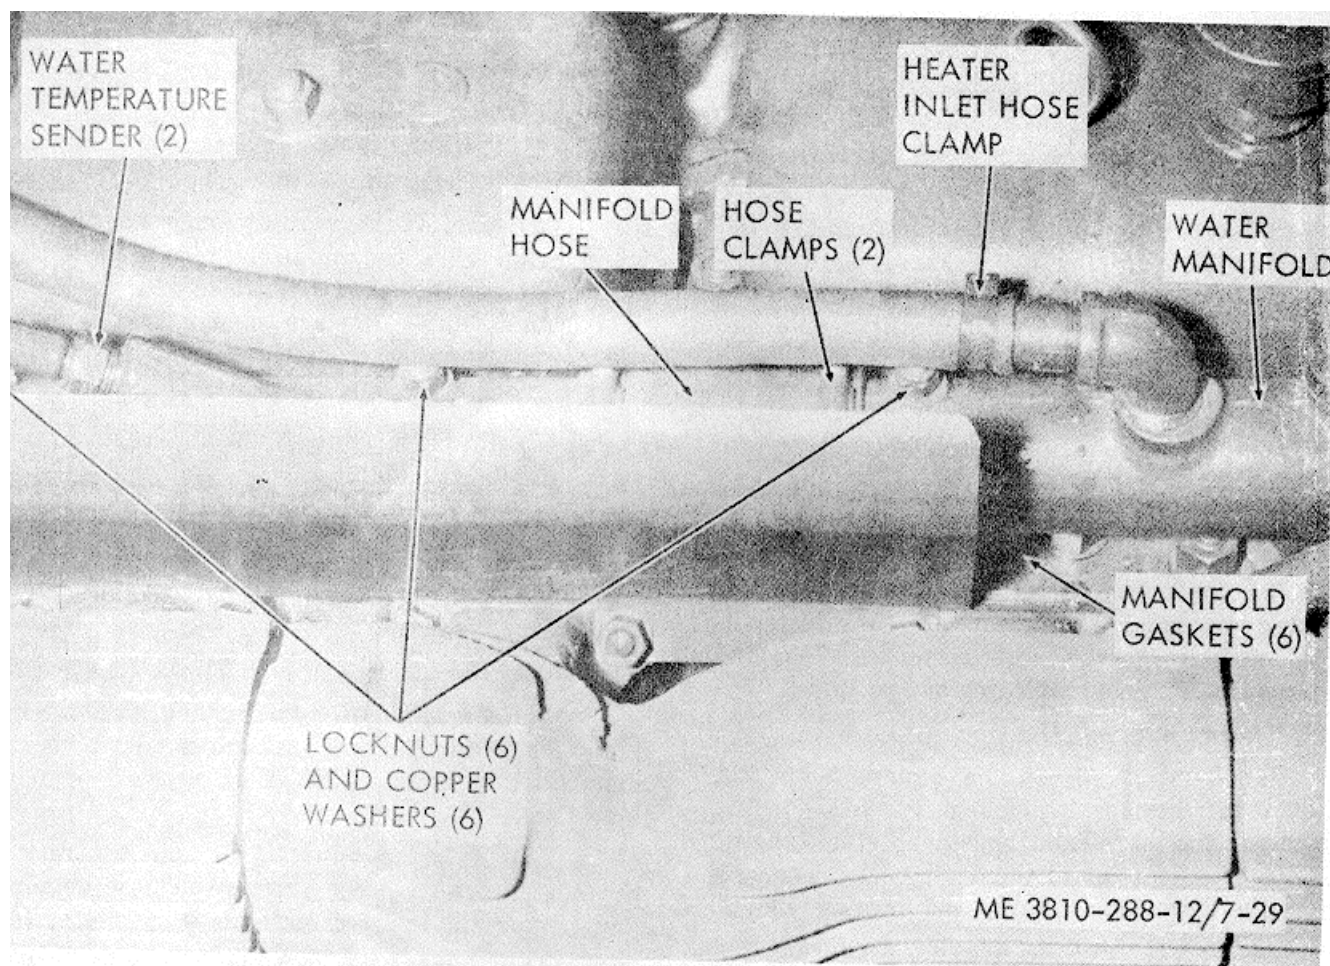

Figure 7-29. Water manifold and lines, removal and replacement.
- (b) Loosen the heater inlet hose clamp and remove the heater inlet hose from the water manifold (fig. 7-29).
- (2) *Replacement.*
- (a) Refer to figure 7-29 and replace the water manifolds and lines.